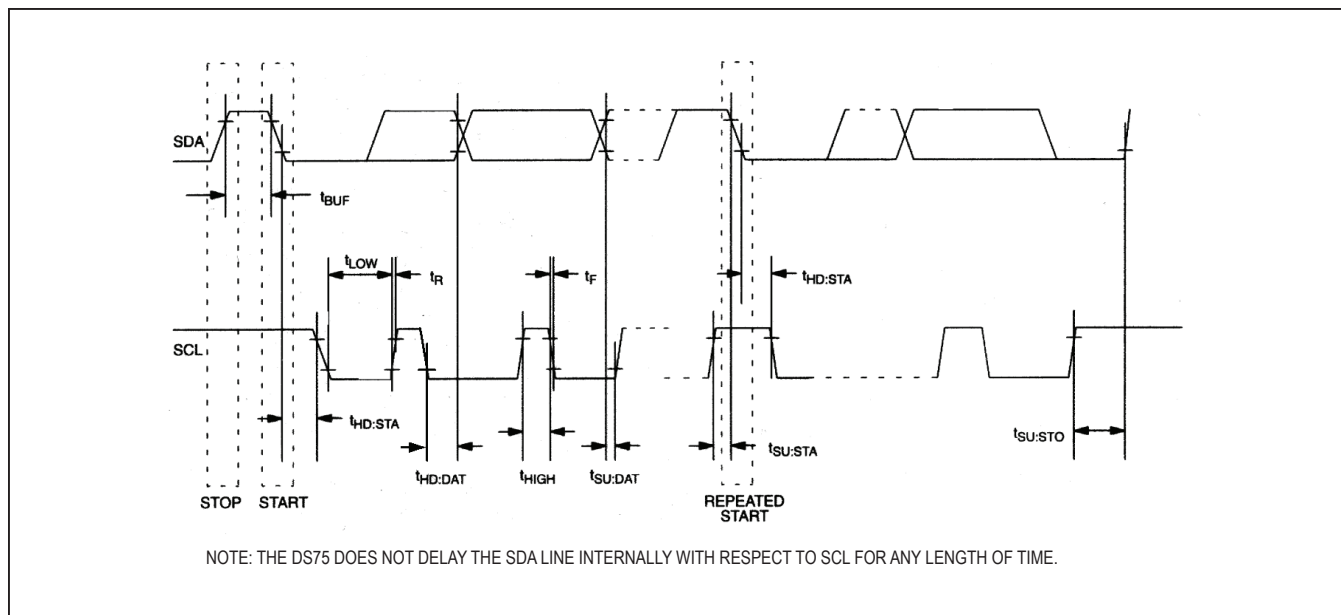

Figure 2. Timing Diagram
**Note 5:** See Timing Diagram in Figure 2. All timing is referenced to  $0.9 \times V_{DD}$  and  $0.1 \times V_{DD}$ .